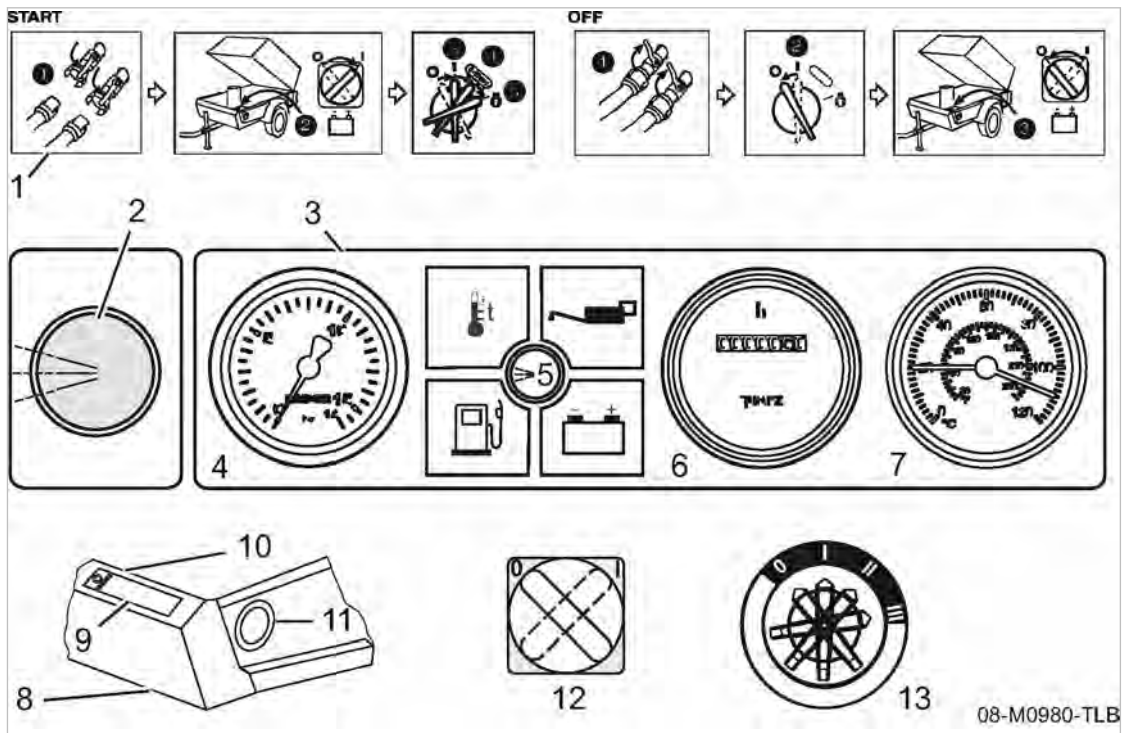

Fig. 33 Starting instruments
«Full load ON» push-button (2) see figure 33.